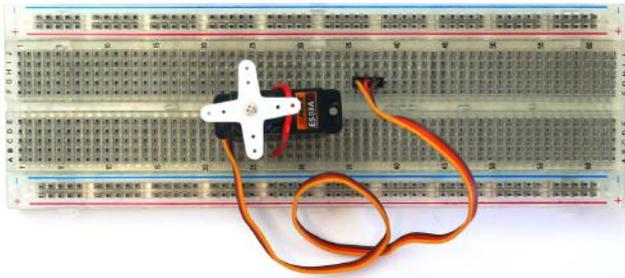

Figure 3-3. *Placing and securing the servo motor on the full-size clear breadboard*
4. Place and secure the servo motor on the full-size clear breadboard with hookup wire, as shown in Figure 3-3.